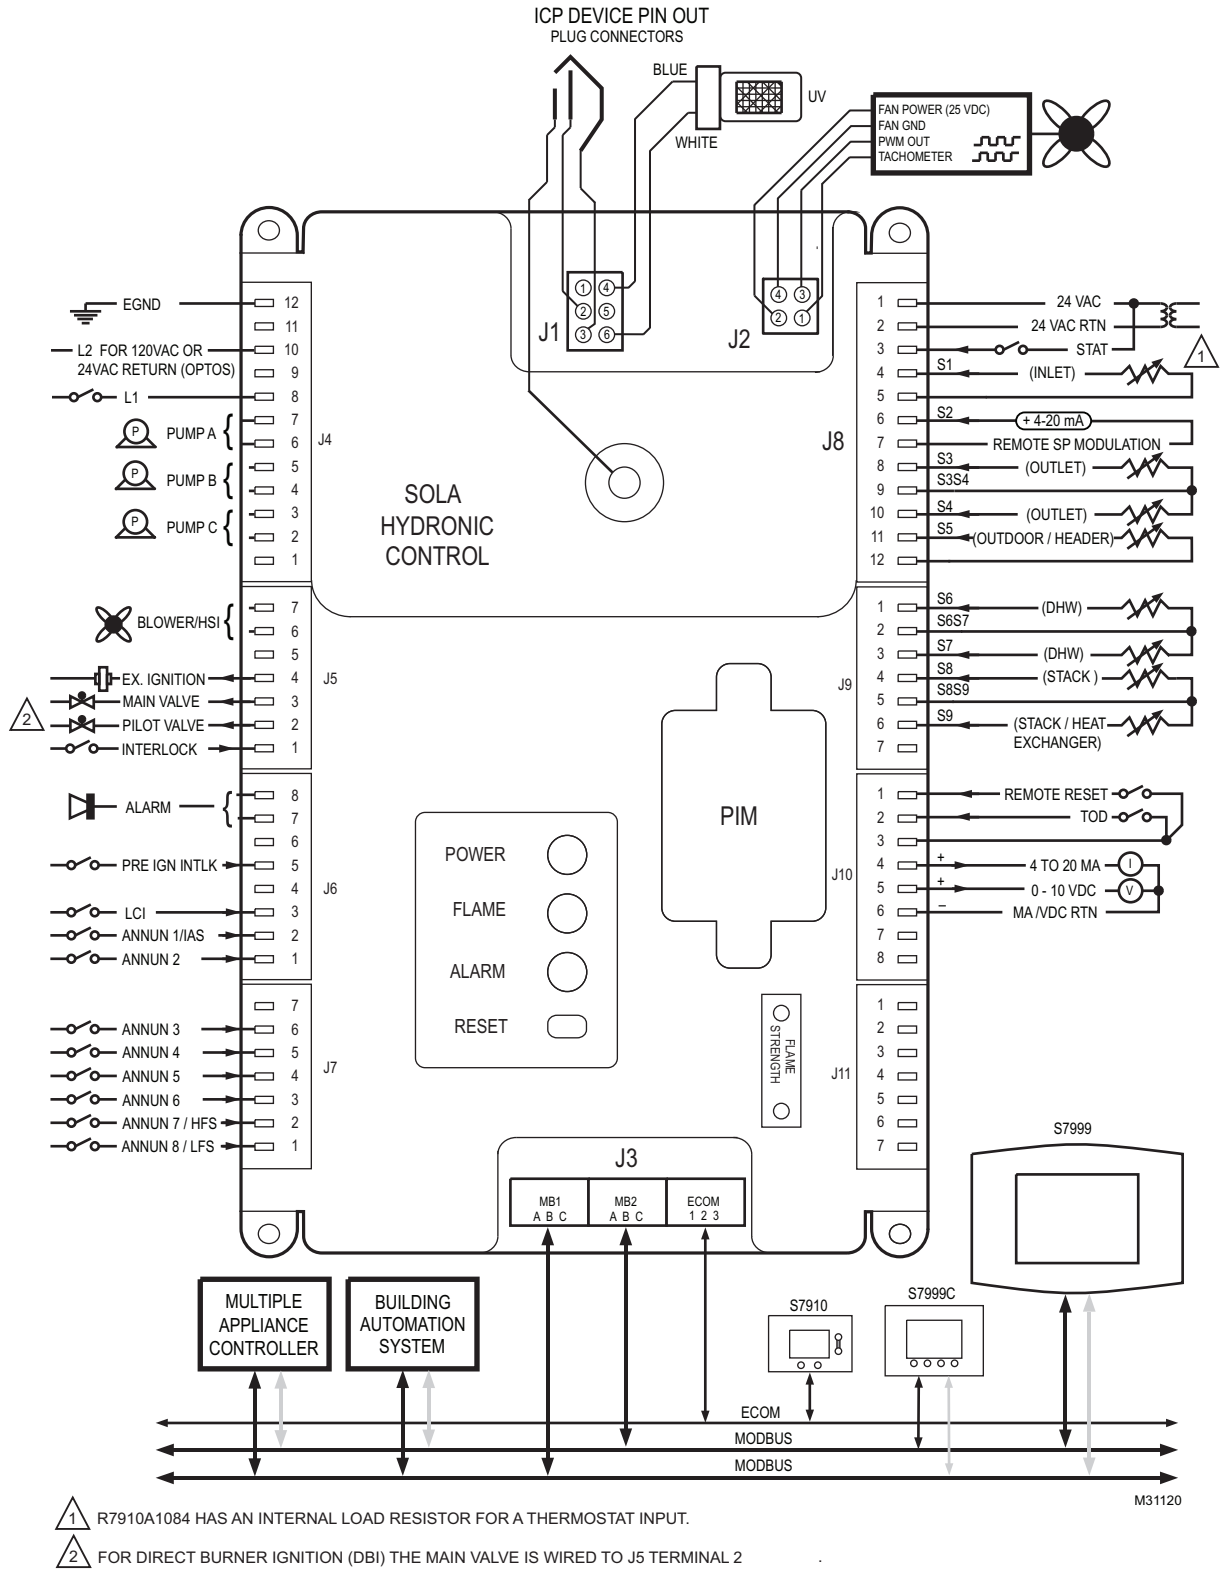

Fig. 3. R7910A device pin out.
2. Refer to the wiring diagram provided as part of the appliance or refer to Fig. 3.